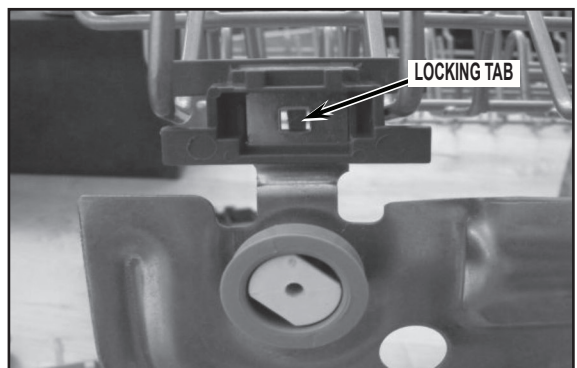

FIGURE 5
7. Once the clip is pushed down on the metal tabs, a small tab will deflect and lock the clip to the metal tab. See *Figure 5*.